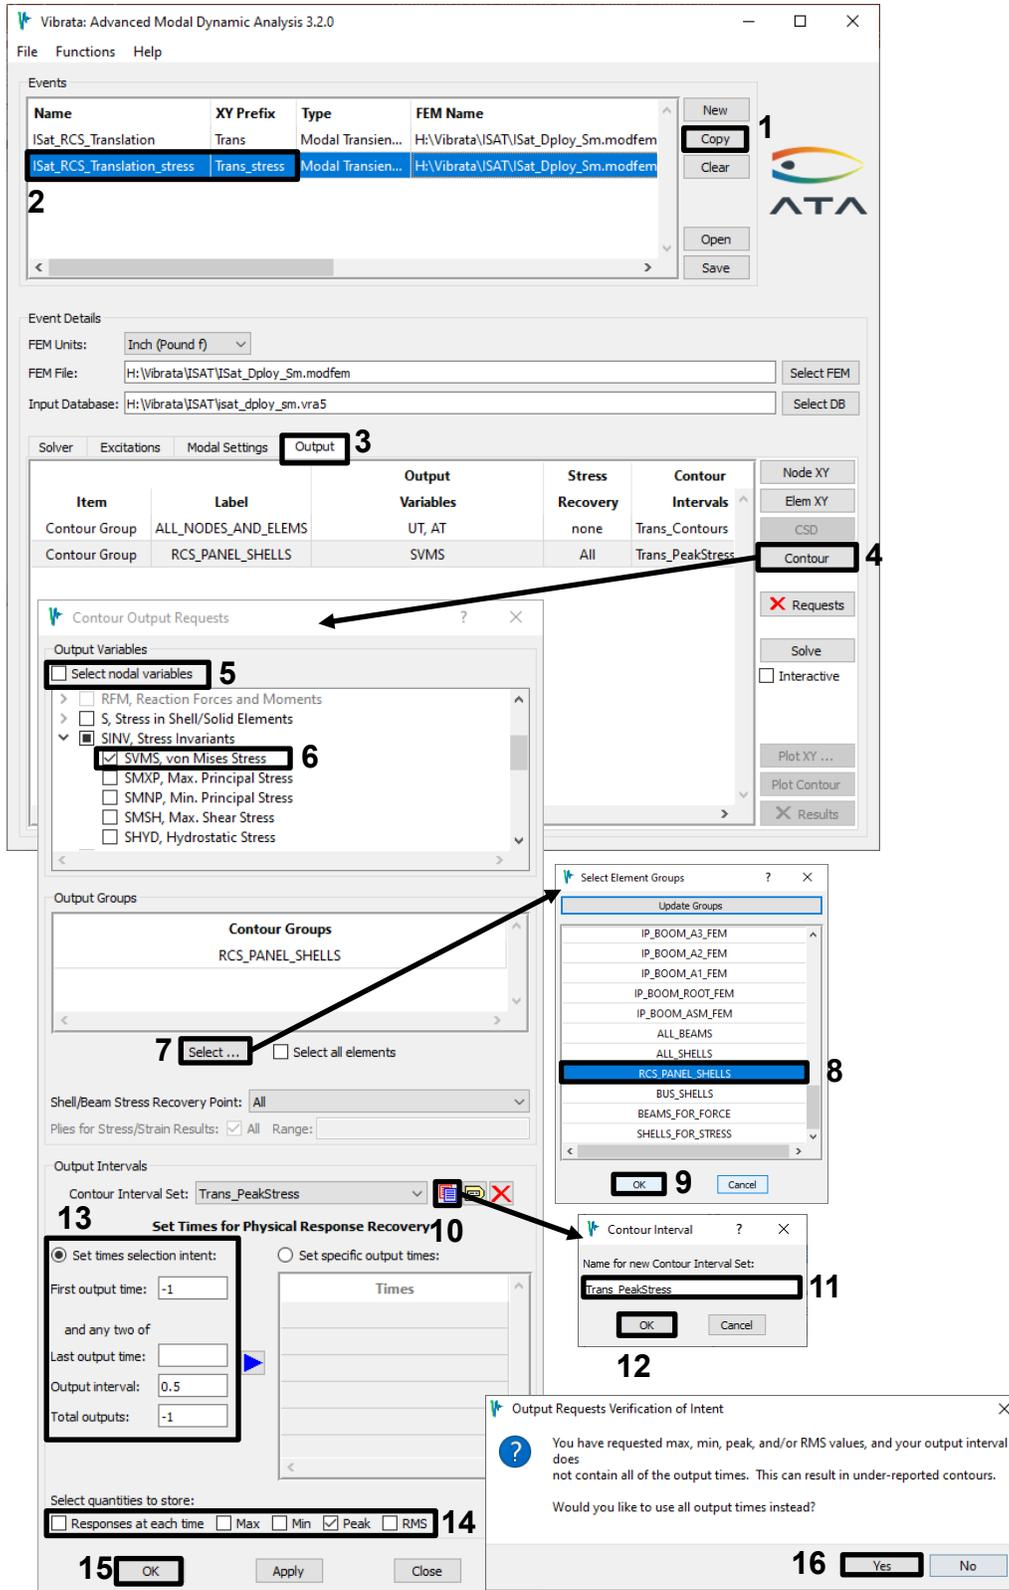

Figure 4-100. Request peak values of von Mises stress in the RCS mounting panels.
9. Create another contour request. This time ask for von Mises stress in the RCS mounting panels, but request only the peak value found in each element over the same time steps used for the displacements. You can create the new interval definition by copying the first one and then changing the settings of the **Select quantities to store** toggles (Figure 4-100). Click "Yes" to close the "Output Requests Verification of Intent" Window.